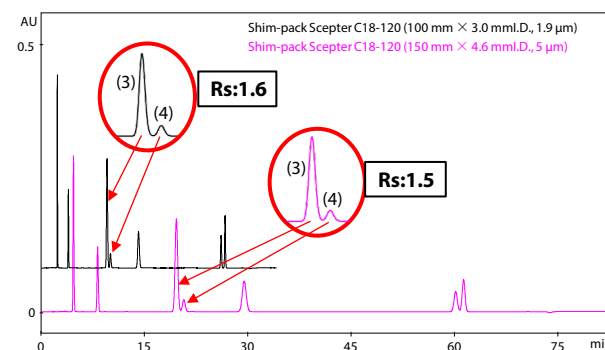

Fig. 7 Comparison of Chromatograms Before (Upper) and After (Lower) Method Transfer
Fig. 7 presents a comparison of chromatograms before transfer (conditions are upper section of Table 2) and after transfer (conditions are lower section of Table 2 : parameters automatically calculated by LabSolutions MD). Although the chromatograms were acquired using different systems and columns, similar separation patterns were observed. Notably, even for the most challenging peaks, peaks (3) and (4), baseline separation was maintained before and after transfer. These results demonstrate that LabSolutions MD enables reliable method transfer while preserving separation patterns through automatic parameter adjustment.